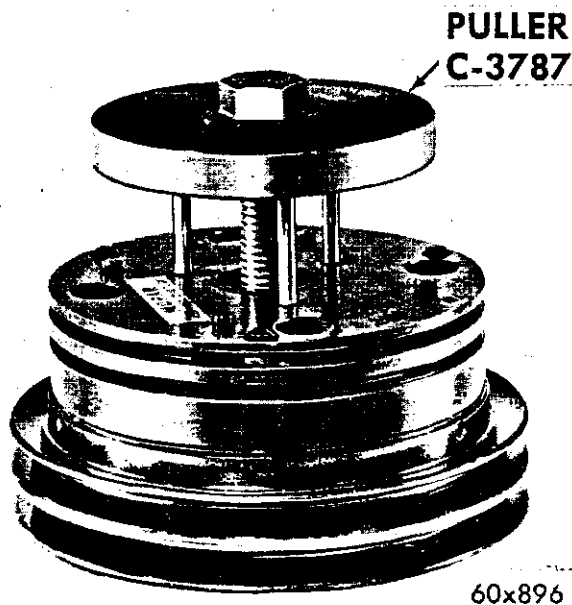
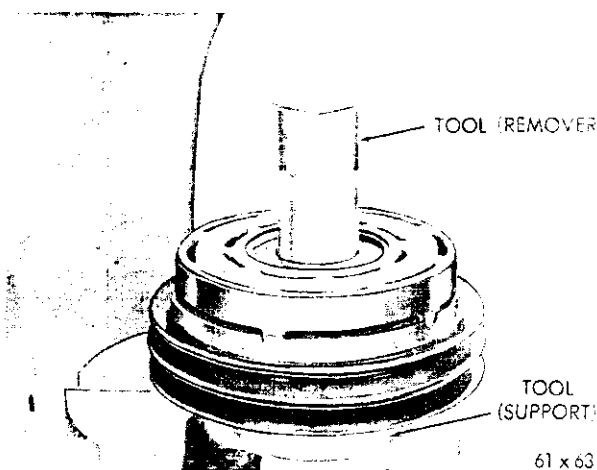

Fig. 38—Removing the Hub and Shoe Assembly
Fig. 39—Removing the Bearing from the Pulley Assembly
(1) Remove the small snap ring from the drive hub with Tool C-3128 or equivalent.
(2) Install the drive hub puller Tool C-3787 aligning the three pins of the Tool in the three holes in the hub and shoe assembly. Tighten the hex head bolt down until the drive hub is removed from the bearing (See Fig. 38).
(3) Remove the bearing snap ring from the pulley assembly.
(4) Place the pulley assembly on an arbor press, with the pulley side down, and the bearing hub centered on Tool C-3835. Install the Tool SP-3496 on the inner race of the bearing, and press the bearing from the pulley assembly. (See Fig. 39).